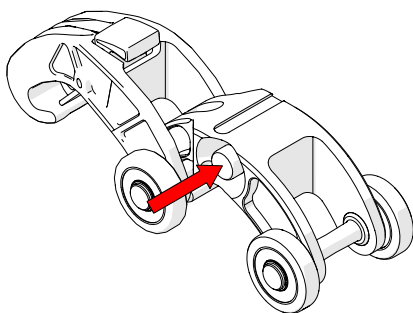

Fig. 74 - Press button
1. Press the button on the side of the dovetail QuickLink (*Fig. 74*).